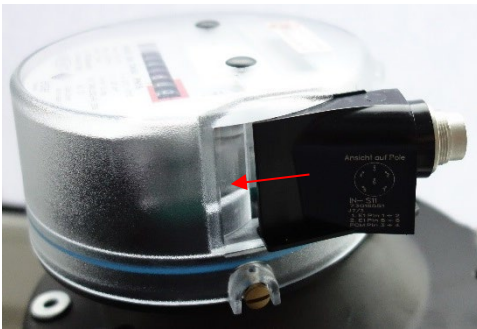

Fig. 1 | Installation of IN-Sxx
- The pulse generator versions IN-Sxx are inserted sideways into the mounting of the index until they click into place (see Fig. 1).